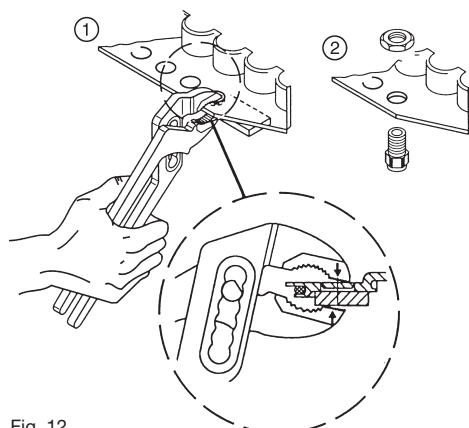

Fig. 12
- remove the cut-outs which have been marked for the PG 7 threaded connectors with a set of water pump tongs using a supporting surface (e.g. coin see ① Fig. 12)
Fit the PG 7 threaded connectors (see ③, Fig. 12)
- push the screws through the threaded connectors and fix on the top with a locking nut (see ②, Fig. 12)